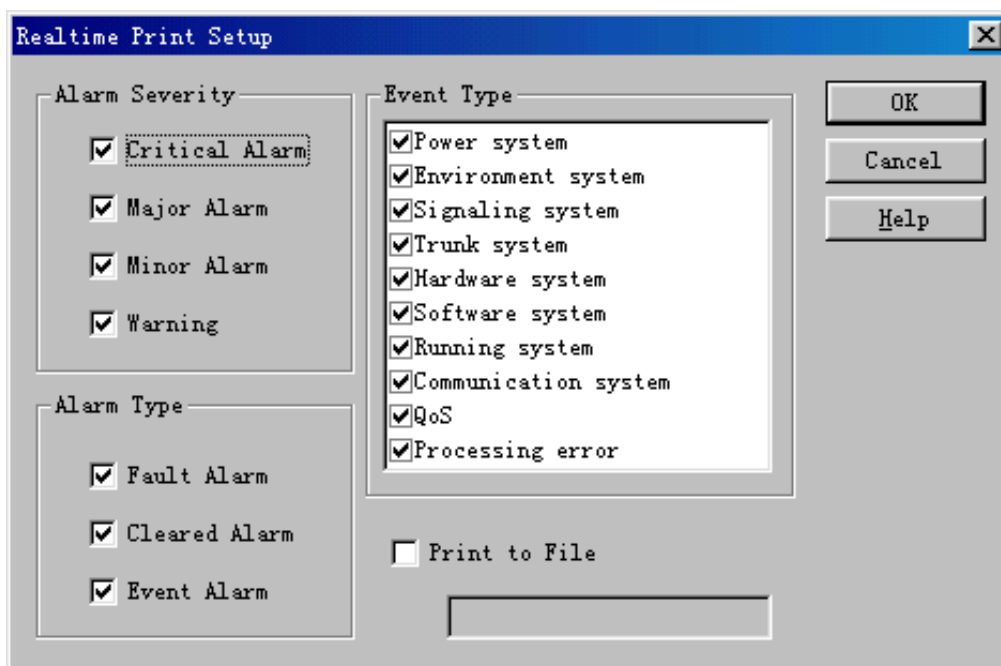

Figure 5-11 Realtime Print Setup dialog box
- 1) Select **System -> Realtime Print Setup**. The **Realtime Print Setup** dialog box opens up as shown as Figure 5-11.